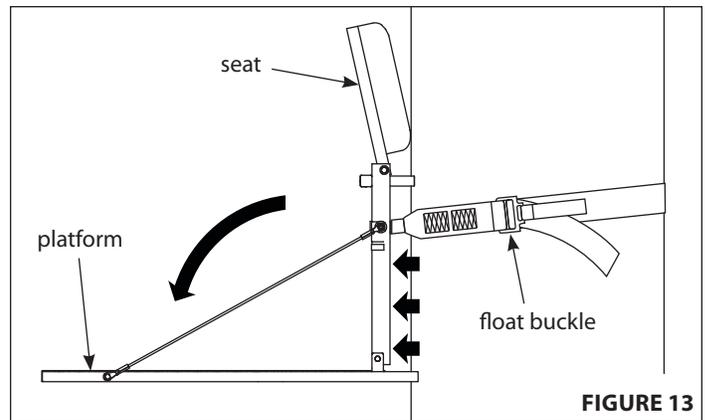

FIGURE 13
- e. Once securely attached, pivot the platform down. This lever-action will snug stand up tight to tree to prevent any shifting. Redo as necessary to accomplish a snug stand-to-tree fit. All four contact bars must be touching tree! **SEE FIGURE 13.**